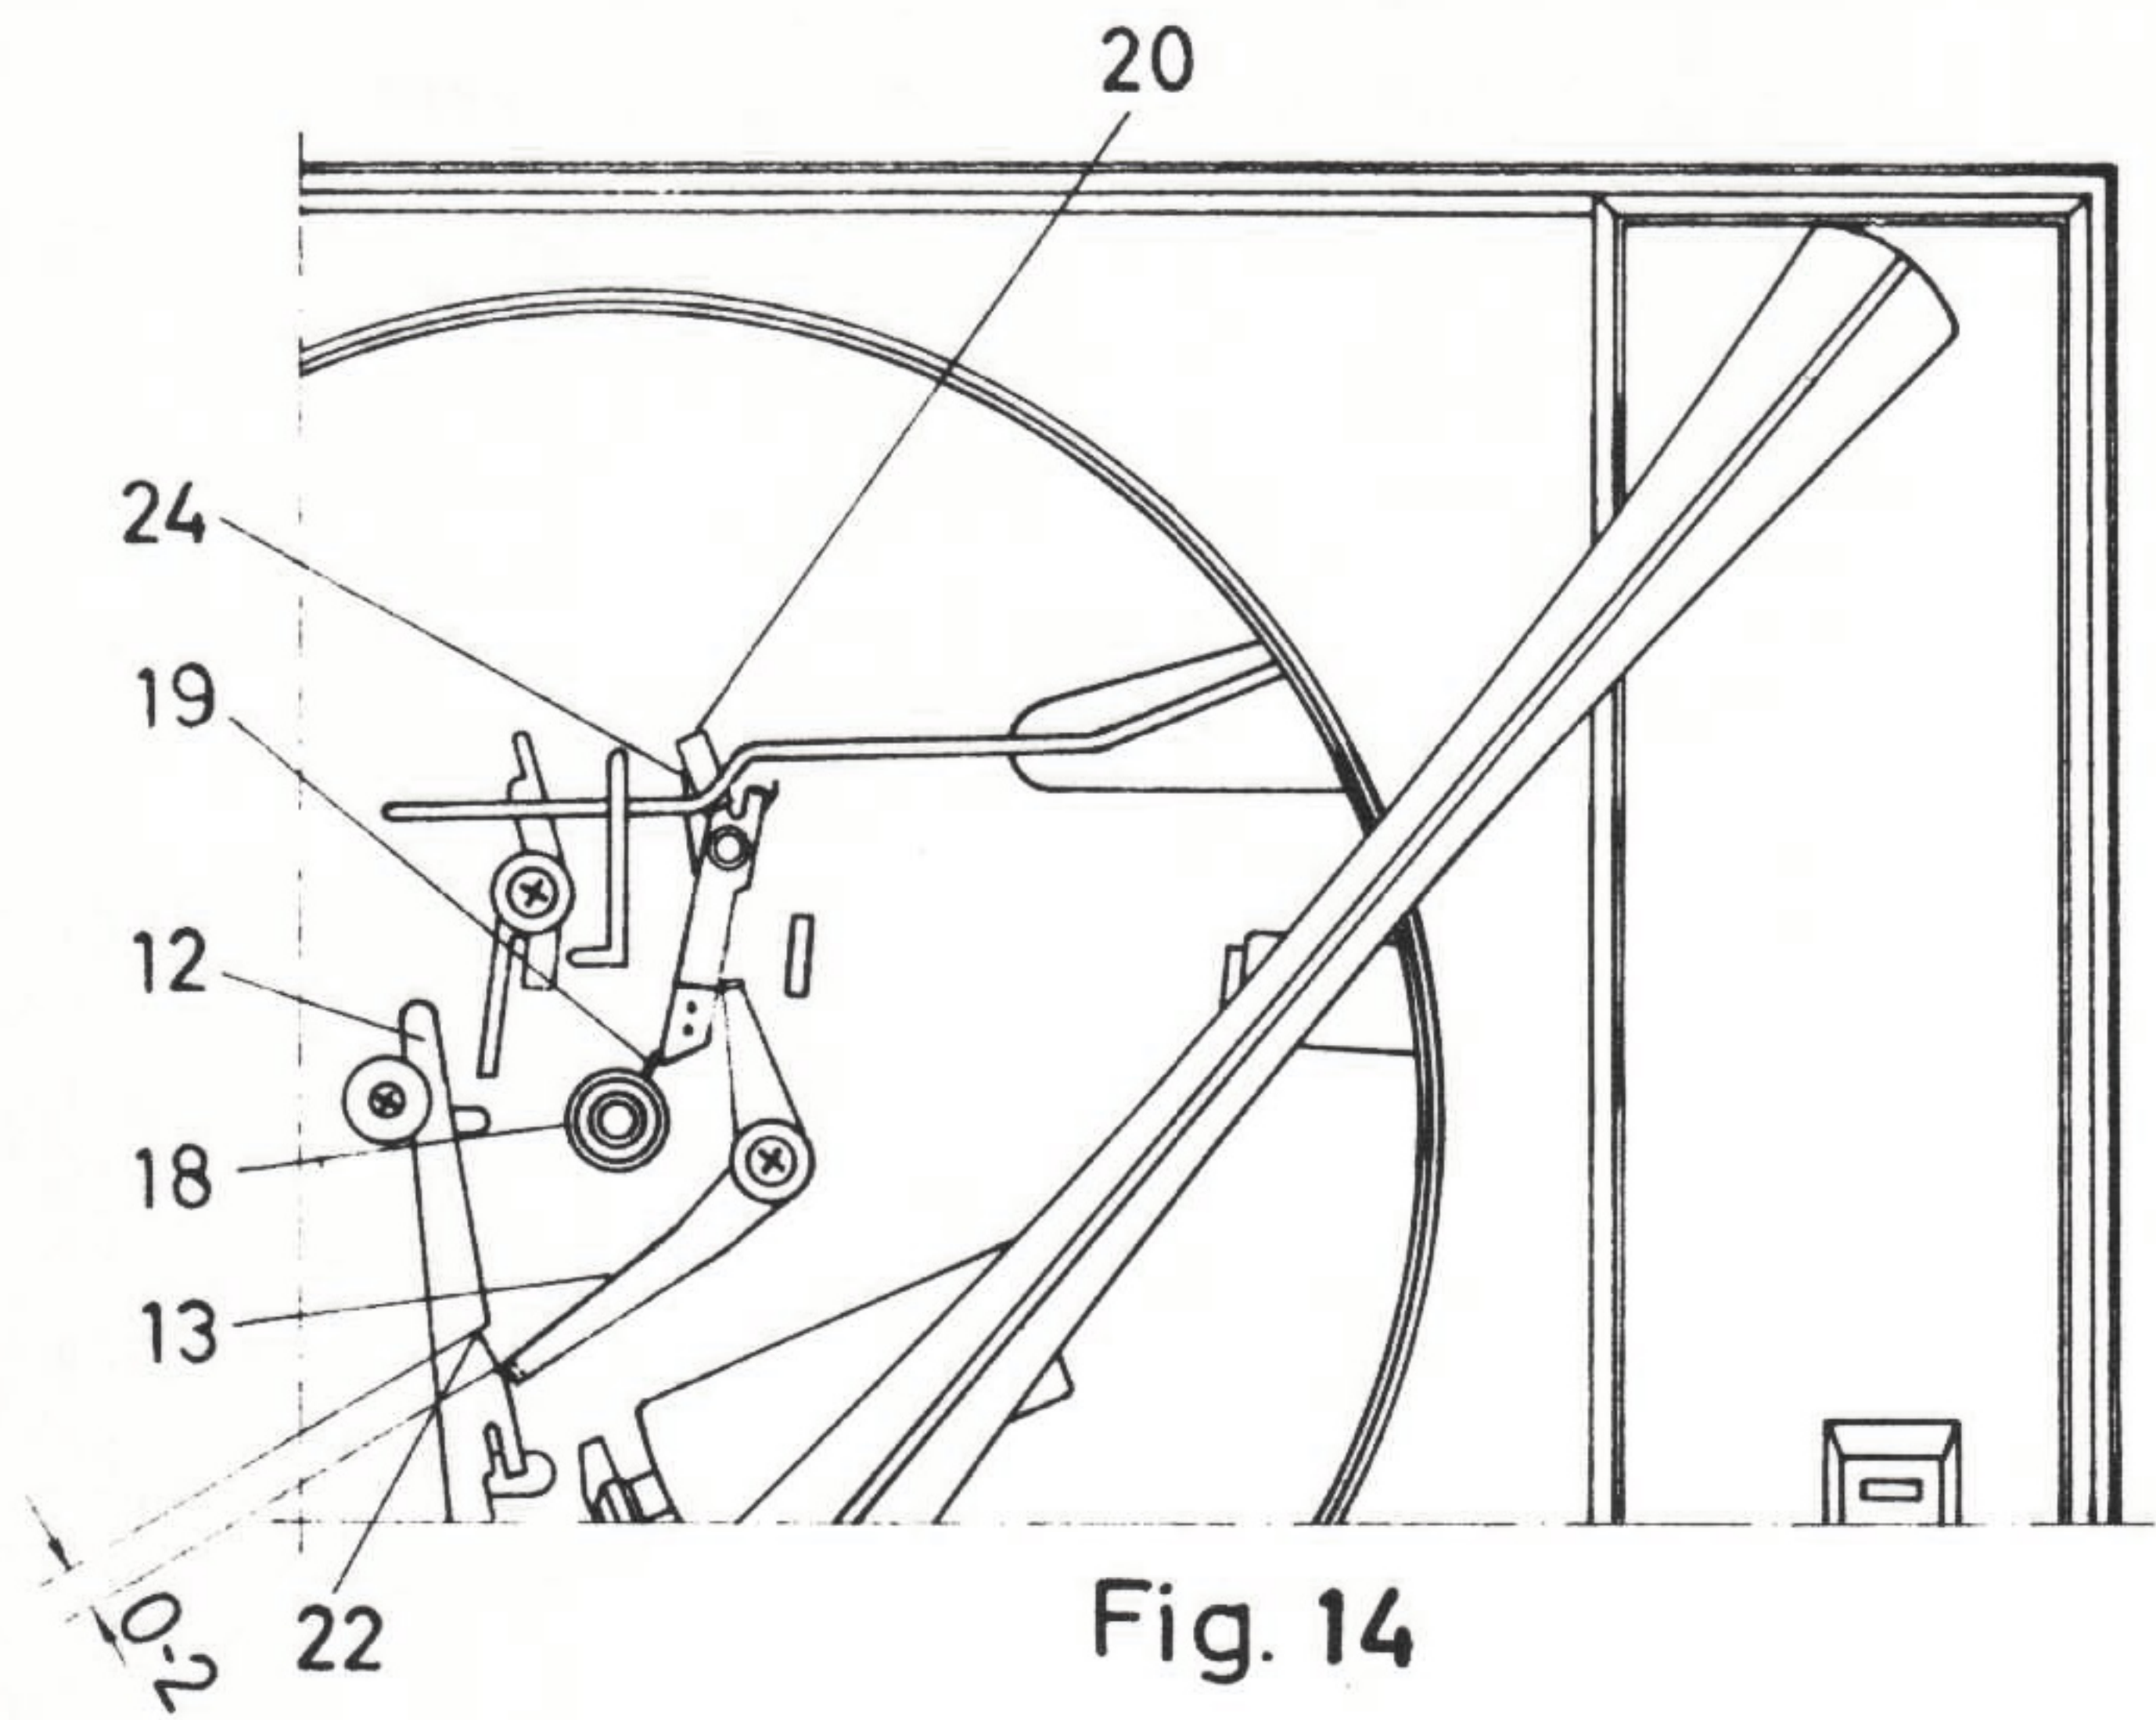

Fig. 14
KONTROLL AV FUNKTIONER VID AUTOMATISKT STOPP. FIG 14.
FÖR IN TONARMEN ETT STYCKE, SÅ ATT ANSLAGSARMEN (20) RÖR SIG, OCH ANVÄND ETT SKIVTALLRIKSCENTRUM (18) PÅ SKIVTALLRIKSAXELN VID KONTROLLEN. VRID DETTA SÅ ATT STOPPTRÅDEN (19) FATTAR TAG I ANSLAGSARMEN (20) OCH DENNA I SIN TUR PÅVERKAR STOPPARMEN (13) SÅ ATT DESS ENA SKÄNKEL GÅR IN MOT URTAGET (22) I START- OCH STOPPARMEN (12), DÄR AVSTÅNDET ENLIGT FIG 14 SKALL VARA 0 - 2 MM.
VREDET (8), FIG 7, STÄLLES I LÄGE 33. EN 45-VARVSSKIVA LÄGGS PÅ FÖR AVSPELNING. DÅ AUTOMATISKA STOPPET VERKAT KONTROLLERA ATT SKIVTALL- RIKEN EFTER DETTA GÅR RUNT SÅ LÅNGT ATT ETT "KLICKANDE" LJUD HÖRS, NÄR ANSLAGSARMEN (20), FIG 14, SLÅR EMOT SITT STOPP.